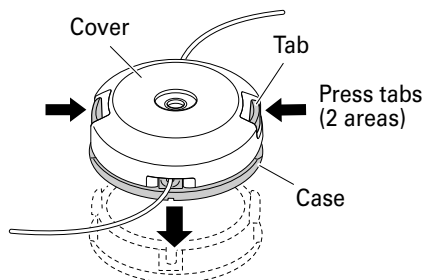

Fig. 22
- (2) Press the opposing tabs, and then remove the cover from the case. (Fig. 22)